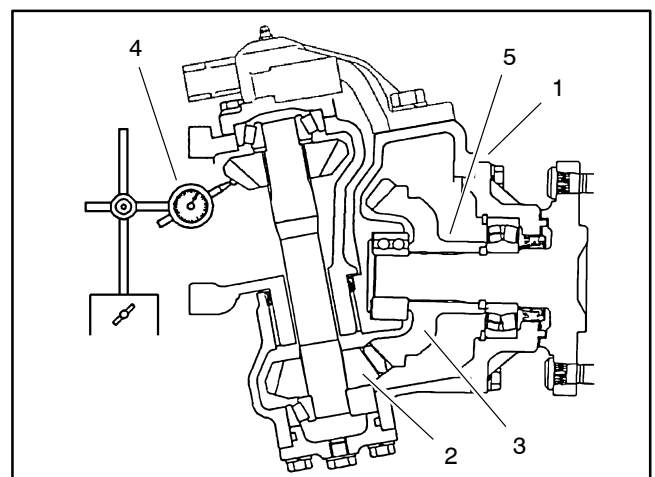

Figure 29
9. Remove the bevel gear case/axle case assembly from the axle support. Coat a new O-ring with grease and temporarily install the axle cover assembly. Position a dial indicator at the tooth center. Prevent the axle from turning and measure the lower bevel gear to axle gear backlash (Fig. 29).